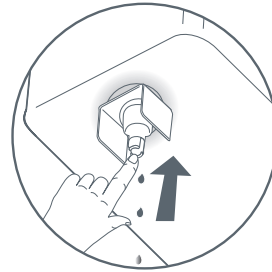

Fig. 3
- After cleaning, press on the filtration valve under the bowl to release any water in the bowl – fig. 3.